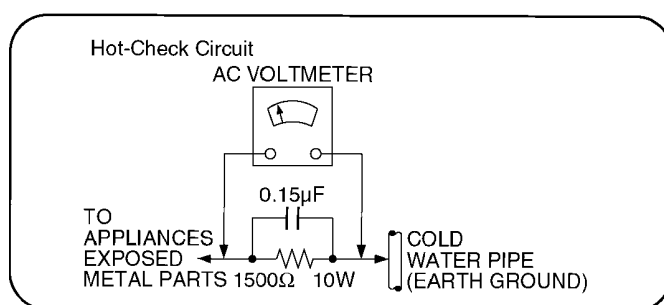

Figure 1
1.1.2. LEAKAGE CURRENT HOT CHECK (See Figure 1)
2. Connect a 1.5kΩ, 10 watts resistor, in parallel with a 0.15µF capacitors, between each exposed metallic part on the set and a good earth ground such as a water pipe, as shown in Figure 1.